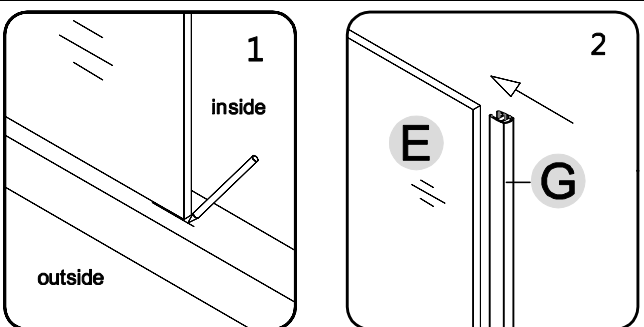

Fig 4
1. Mark a line on the threshold base on the handle side See Fig. 4 for details.
2. Press the **Magnetic Strip (G)** on the vertical edge of the **Glass Door (E)**.